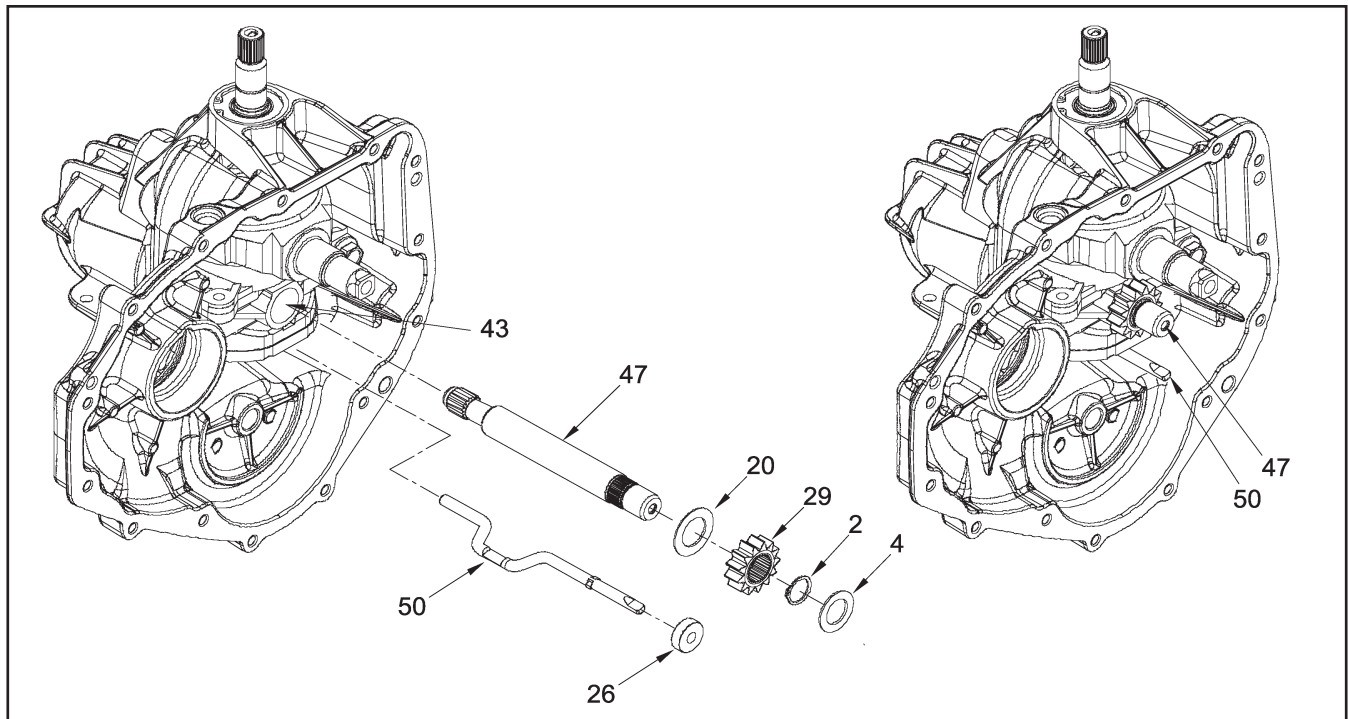
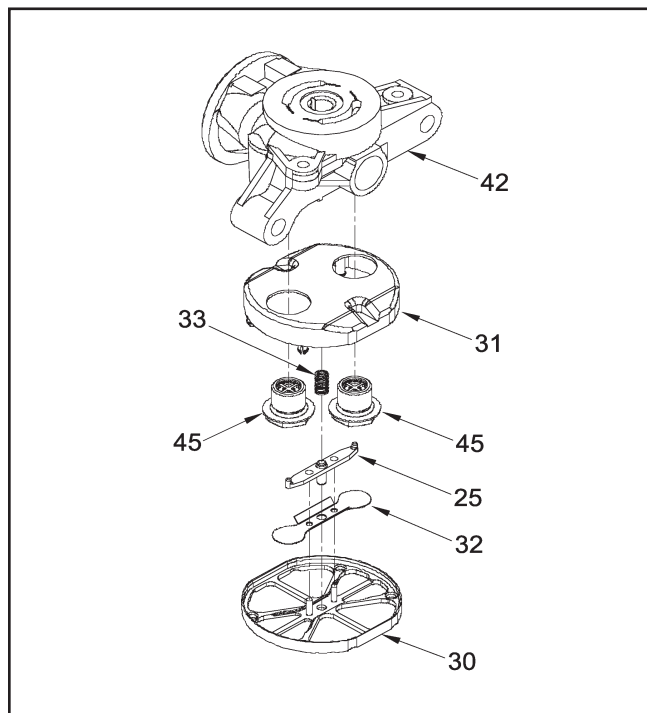
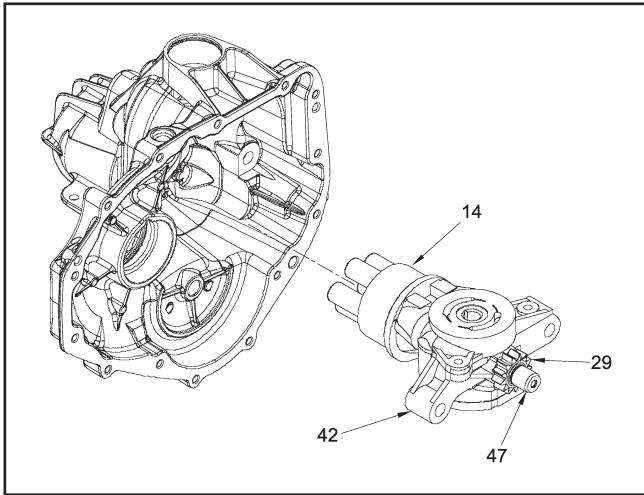

Figure 9. Motor Shaft & Bypass Rod Assemblies
Figure 17
Figure 19
Refer to Figure 9.
15. **(See Figure 17)** Remove the filter (30) from the filter base (31) by snipping the four posts with side cutters or applicable tool. NOTE: This filter cannot be reused.
16. Remove and inspect the deflector (32), bypass actuator (25) and bypass spring (33).
17. Note the location of both check plugs (45) before removal for correct replacement during reassembly. Remove and inspect the check plug assemblies (45) for debris or damage.
18. Remove the filter base (31) and discard it. NOTE: The filter base is included in the filter kit to be installed during reassembly of the unit.
1. **(See Figure 19)** Turn the housing (43) so the thrust bearing cavity is facing up. This will assist in the installation of the thrust bearing assembly (12) keeping it in the bearing cavity during installation of the center section assembly.
2. Insert the thrust bearing (12) in the housing (43). NOTE: Place the thin race of the
3. **(See Figure 17)** Install the new filter base (31) onto the center section (42).
4. Install the check plugs (45), in their correct location, into the center section (42). Tighten the check plugs according to Table 5.
5. Install the bypass spring (33) into the filter base (31).
6. Install the deflector (32) into the underside of the filter (30).
7. Install the bypass actuator (25) into the underside of the deflector (32).
8. Hold the stem of the bypass actuator (25) from the top of the filter (30) to retain the deflector (32) and bypass actuator (25) in place when snapping the filter (30) onto the filter base (31). NOTE: Filter installation is best accomplished by using a spacer as an assembly tool over each of the (4) snaps while lightly tapping with a rubber mallet. Excessive force will result in damage to the plastic filter components.
9. **(See Figures 9 & 19)** Install the motor shaft (47), pinion gear (29) and flat washers (4 & 20) into the center section.
10. Assemble the motor block assembly (14) onto the motor shaft (47).
11. **(See Figure 19)** Install the motor shaft, center section and motor block assembly so that the motor block pistons contact the thrust bearing race. NOTE: Hold in place and insure all pistons are still positioned correctly in the cylinder bore by confirming spring bias against the center section.
on the center section assembly (42, Figure 19).